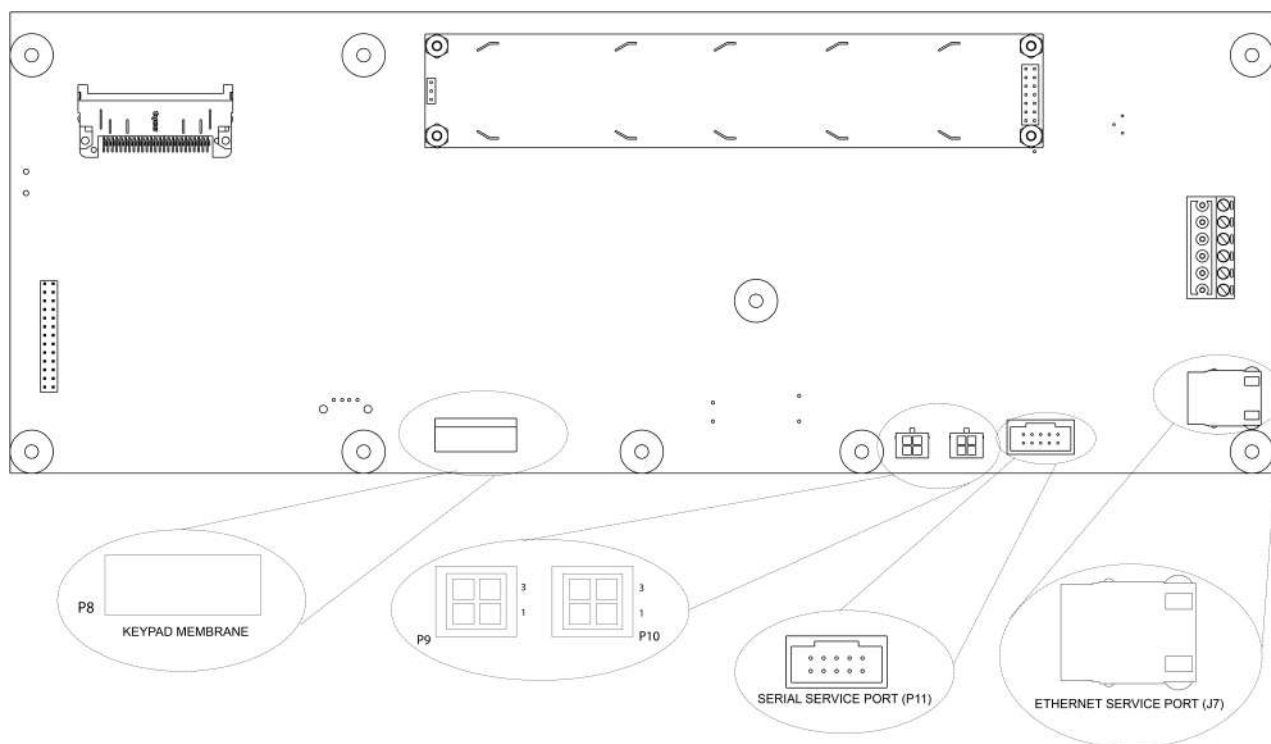
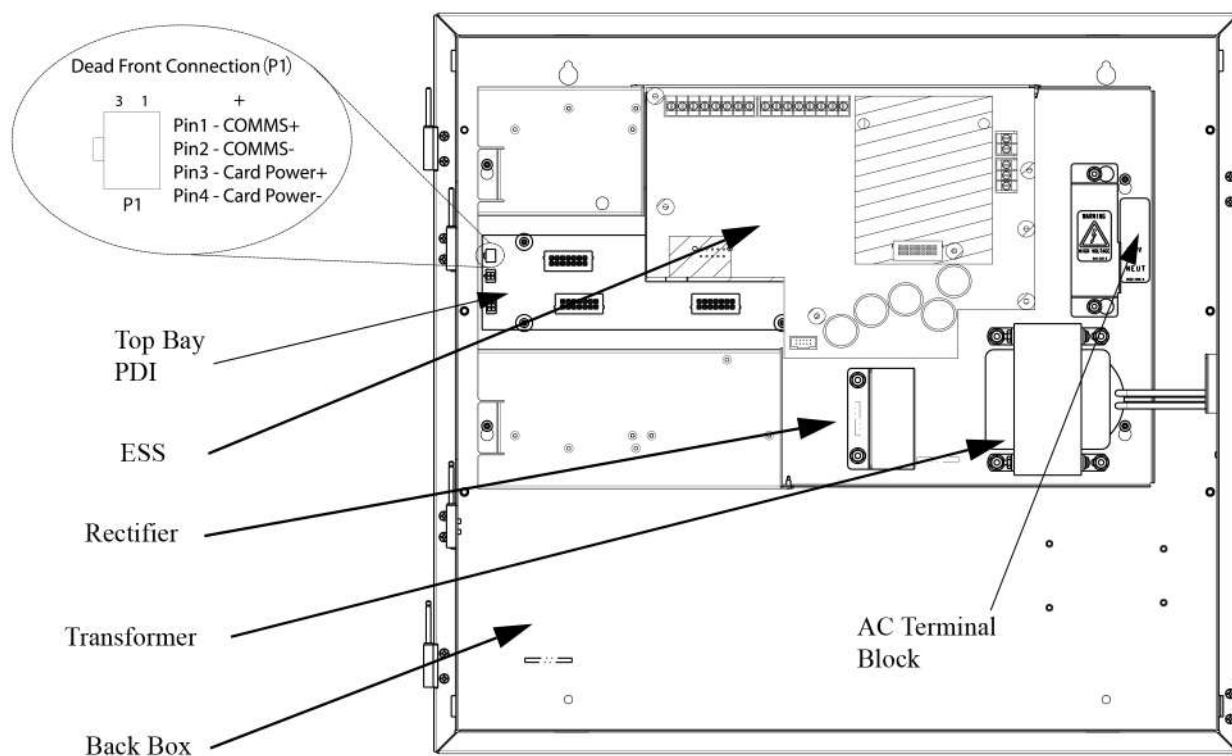
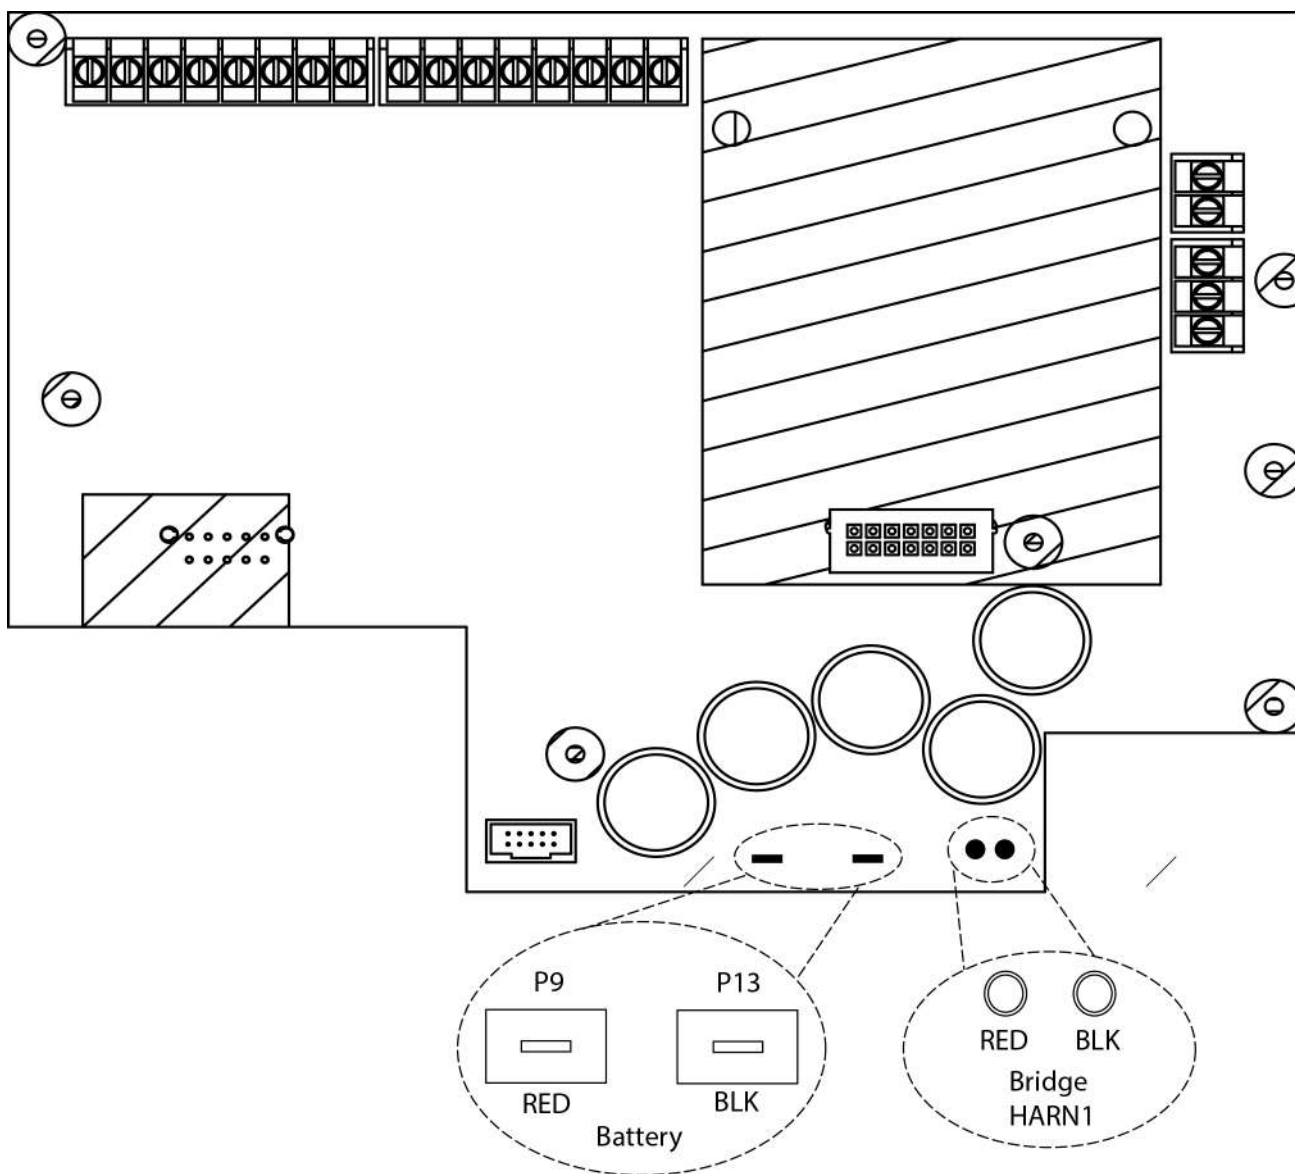

Figure 29: CPU Card rear view
Figure 30: Top bay
Figure 31: ESS Bridge HARN1 connector
3. Attach the **Keypad Membrane** cable of the operator interface to port P8 on the CPU card (Figure 29). To do so:
6. Connect port **P9** or **P10** of the CPU card to the **dead front connection (P1)** port on the top-bay power distribution interface (PDI) card (Figure 29 and Figure 30). Use the 734-008 4-pin connector harness provided.
3. Connect the rectifier to the **Bridge HARN1** connectors on the ESS (Figure 31). The red wire connects to the tab labeled "+" on the bridge. The black wire connects to the tab labeled "-" on the rectifier. See Figure 30 for the location of the rectifier.